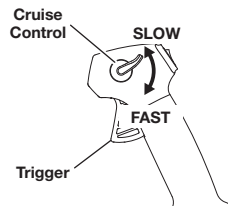

Fig. 1
1. Once the engine has been started and warmed up, squeeze the trigger to accelerate the unit as needed (Fig. 1).
2. For longer periods of operation and to eliminate possible finger fatigue, move the cruise control toward the **FAST** position to incrementally increase or maintain the unit's engine speed (Fig. 1). When the cruise control is pressed, the trigger will recede into the handle.
3. To decrease engine speed, move the cruise control to the **SLOW** position and the trigger will return to the idle position (Fig. 1).